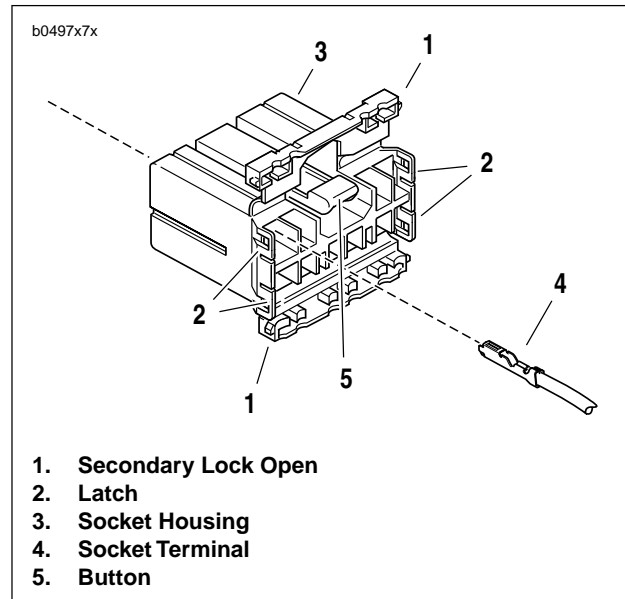

Figure 7-78. Socket Housing
2. See Figure 7-78. Depress the button (5) on the socket housing (3).